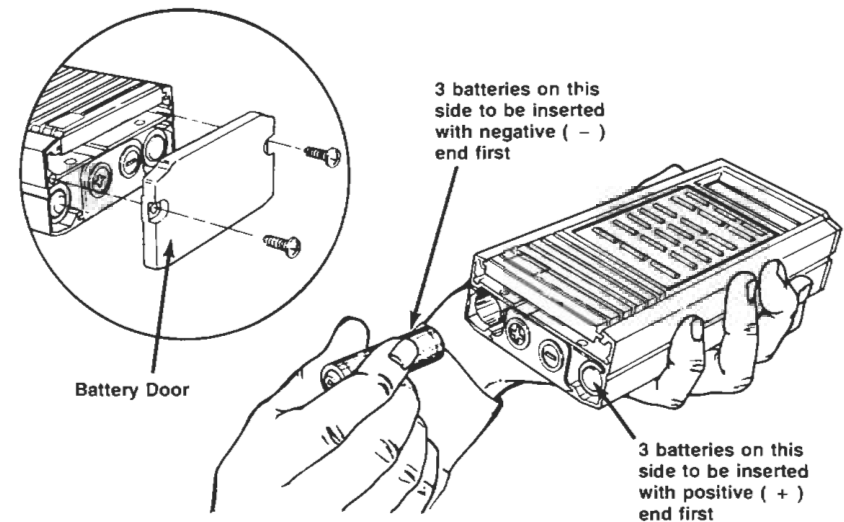

Figure 4
If it becomes necessary to replace your batteries, use only high quality Nickel-Cadmium rechargeable type, AA size rated 1.2 Vdc. Remove the battery cover from the bottom of the radio by removing the screws as shown in Figure 4.
Slide old batteries from tubes and insert replacements in the proper position. Snap battery cover back into place. (See Figure 4)
4. Remove the two screws holding the battery door in place as illustrated in Figure 4.